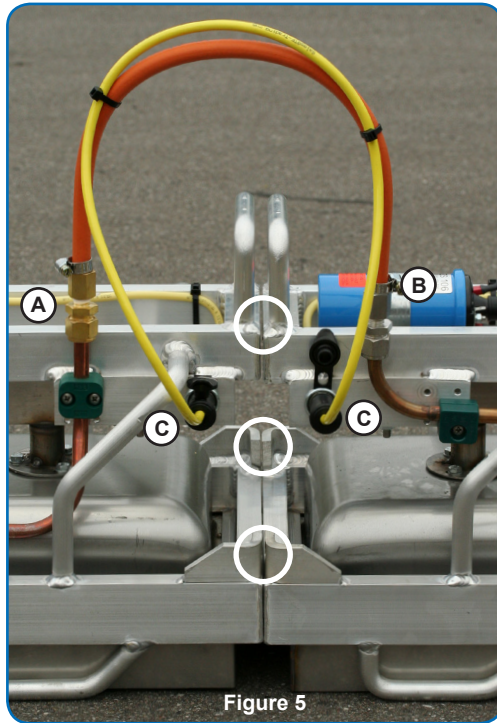

Figure 5
1. Locate the pipe stopper on the gaspipe opposite to the gas inlet on the main Joint Heater. Replace the stopper with the gas flange from the connector kit (figure 5, A). Make sure the connection is tight and without leakage.
2. Align the Joint Heater and the extension as shown on figure 5 and bolt them together with the M8x30/70 screws at the positions marked with white circles on the figure.
3. Connect the two gas flanges (figure 5, A and B) with the gas hose and tighten with the quick release hose clamps. Make sure the connection is tight and without leakage.
4. Connect the power cable to the two sockets on the Joint Heater and its extension and strip the cable to the gas hose (figure 5, C).